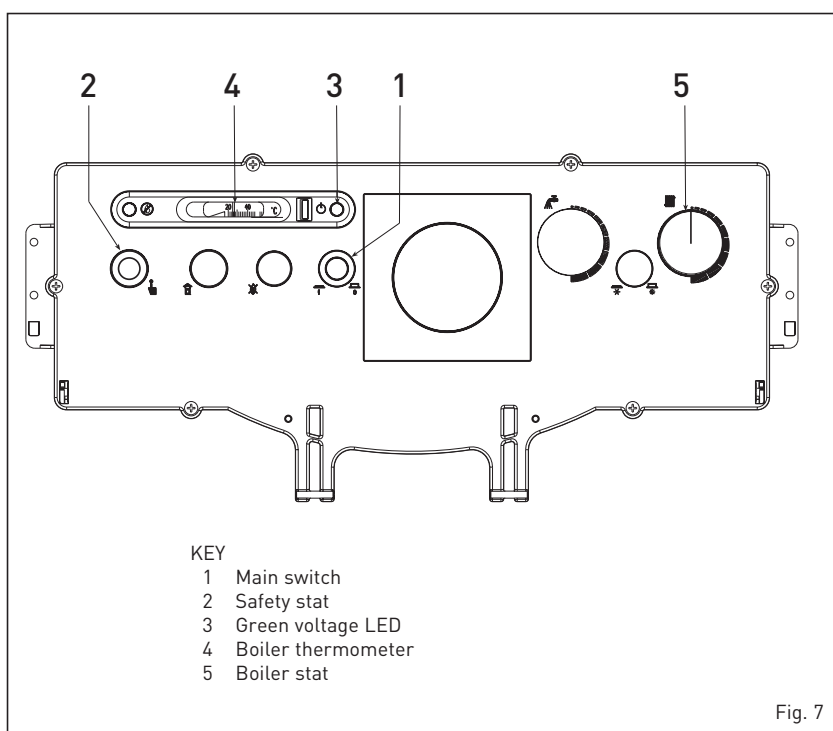

Fig. 7
3.2.1 Lighting the boiler (fig. 7)
- switch on the main switch (1) and verify that the green LED (3) turns on to confirm the presence of voltage. The burner will start;
- turn the boiler stat knob (5) to a temperature no lower than 60°C. The set temperature value can be checked on the thermometer (4).
3.2.2 Safety stat (fig. 7)
3.2.4 Turnig OFF boiler (fig. 7)